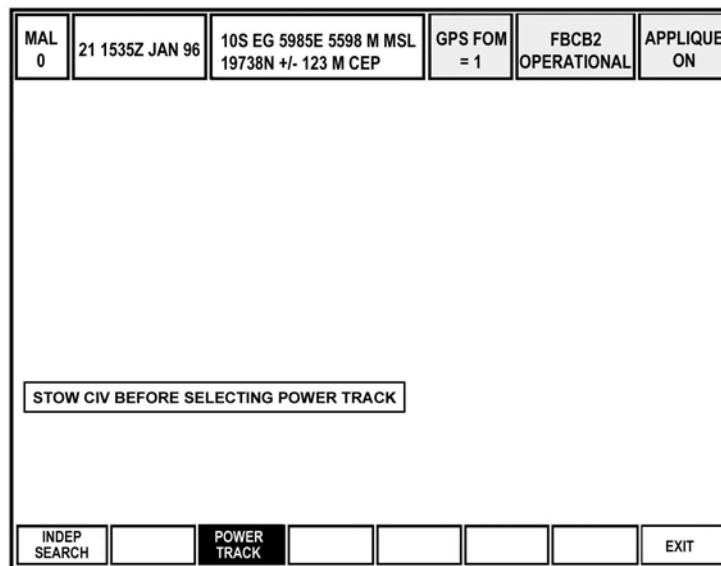

Figure 23. POWER TRACK softkey.
- b. On the FIRE CNTL MODE screen press POWER TRACK softkey (Figure 23).